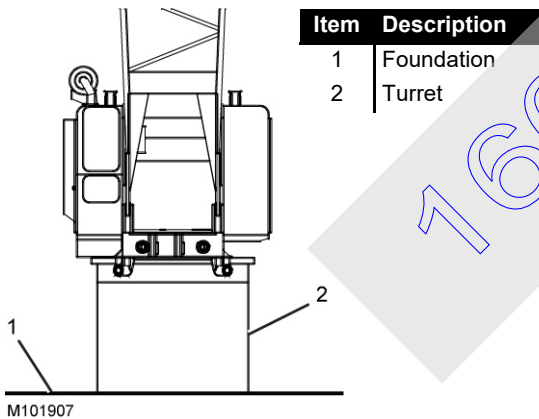

Figure 2-6. Turret-Mounted Crane
1. Crane rotating bed mounted on a turret (pedestal) which is securely fastened to the foundation (Figure 2-6).